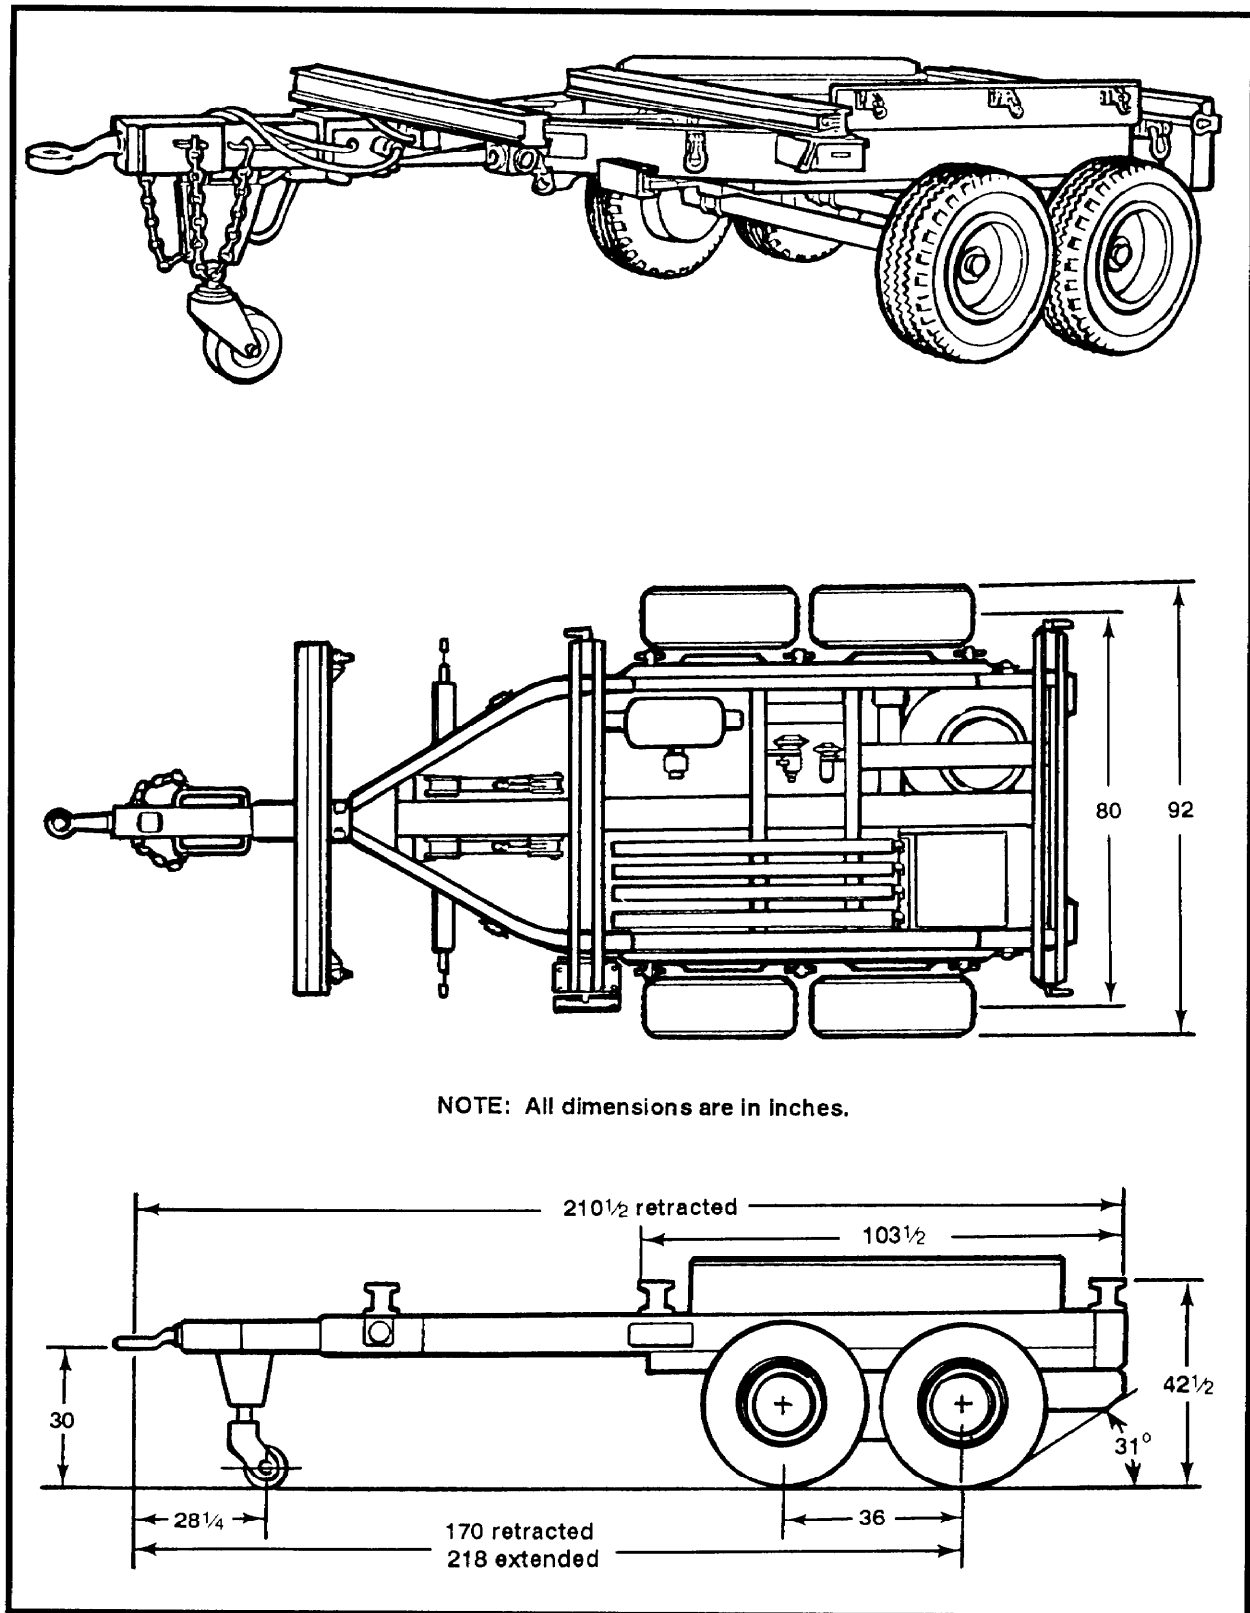

Figure 2-22. 4-ton bolster trailer
(1) 5-Ton, Cargo Long Bed. This truck is the primary vehicle used when constructing military pipelines. It is used to pull the 4-ton bolster trailer, to transport pipe to the construction site, and to haul valves, couplings, and soldiers to and from the construction site.
(2) 4-Ton Bolster Trailer. This is a dual-axle trailer with four bolster attachments and an adjustable tow boom (Figure 2-22, page 2-18). The bolster trailer is the primary means for transporting pipe from construction staging areas to the construction site. Pipe or tubing sections rest on each bolster assembly and are contained by the side stakes and binder chains or straps.
(3) 40-Ton Crane. This crane is used for lifting and placing mainline pumps at construction staging areas and at pumping-station locations.